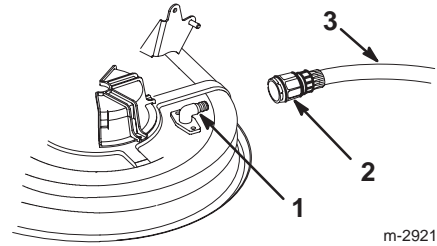

Figure 52
- Attach the coupling (not included) to the mower washout fitting and turn the water on high (Fig. 52).